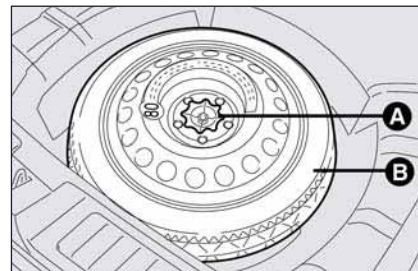
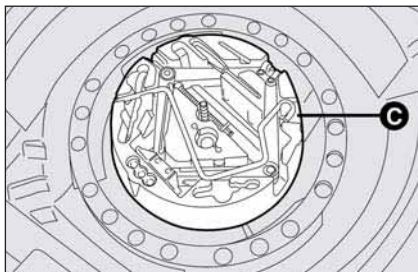

fig. 4
fig. 5
- Loosen the fastener **A-fig. 4**;
- take out the space-saver spare wheel **B-fig. 4** to access the tool container **C-fig. 5**;
- take out the tool container **C-fig. 5** and take it near to the wheel to be changed;